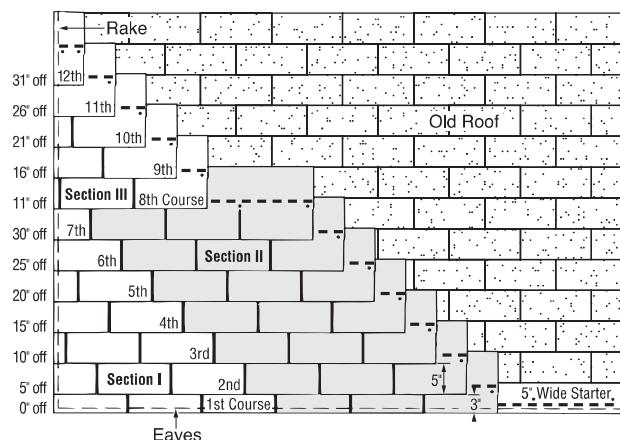

Figure 10-16: Five Off, Twelve Up, Nested.
**1ST COURSE:** The first course is made of 10" by 36" shingle strips made by cutting 2" off the bottom of the tabs of regular shingles. Align the top edge of the strips so they butt up against the tabs of the shingles in the old third course (Figure 10-16).
1. Begin the second course by cutting 5" off the left end of a shingle and aligning the top edge with the butt edge of the shingle in the old fourth course (Figure 10-16).
1. Begin the eighth course by cutting 11" off the left end of a shingle and applying the 25" piece over the seventh course shingle, aligned with the left edge of the seventh course (*Figure 10-16*).